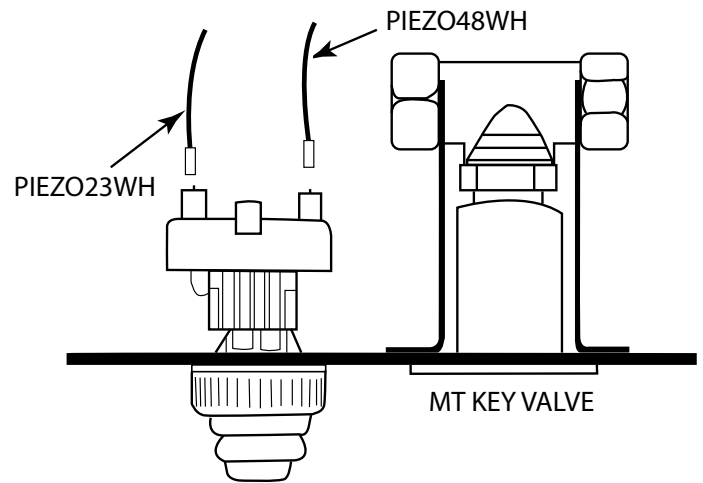

Fig. 19 Wiring into the Piezo module.
PRECAUTION: If you are installing the MSI (Manual Spark Ignition) ensure the PAVER-CP-MT-MSI control panel is within 40-inches of the 2-probe Piezo ignitor. This will allow enough "play" in the wires to make your connections. See Fig. 19 on page 7.
Step 7: Connect the 3/16" end of the PIEZO23WH extension wire and 3/16" end of the PIEZO48WH wire into the back side of the spark ignitor module. See Fig. 19 detail.